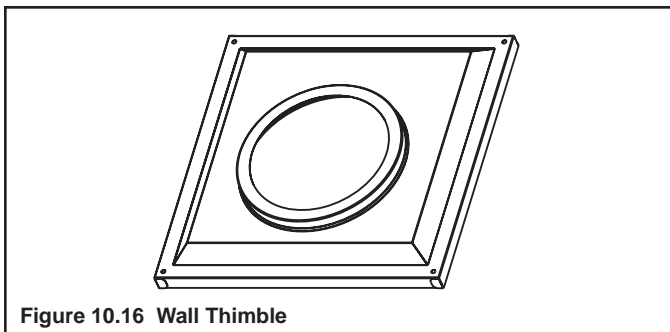

Figure 10.16 Wall Thimble
- Once the pipe section and the termination cap have been connected, slide the wall thimble up to the interior wall surface and attach with screws provided. See Figure 10.16.